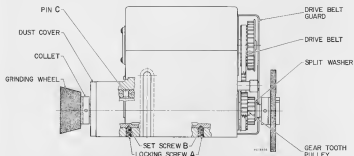

Figure 110A. Grinding Wheel Spindle (Anti-Friction)
- 1 Remove grinding wheels, collets and wheel guards from both ends of grinding wheel spindle (Figure 110A)
5. Remove the two locking screws "A" and two set screws "B" (Figure 110A).
4. Insert the new spindle in either the right or left end of the wheelhead, with the end for the tooth pulley to the right when facing the front of the machine. Important—When inserting the new spindle in the wheelhead it should be rotated so pin "C" (Figure 110A) will not interfere with set screws "A" and "B"
7. Spot new spindle, using a $\frac{3}{16}$ " drill through tap holes for screws "A" and "B" (Figure 110A). Care should be exercised in spotting new spindle so as not to move it out of alignment.